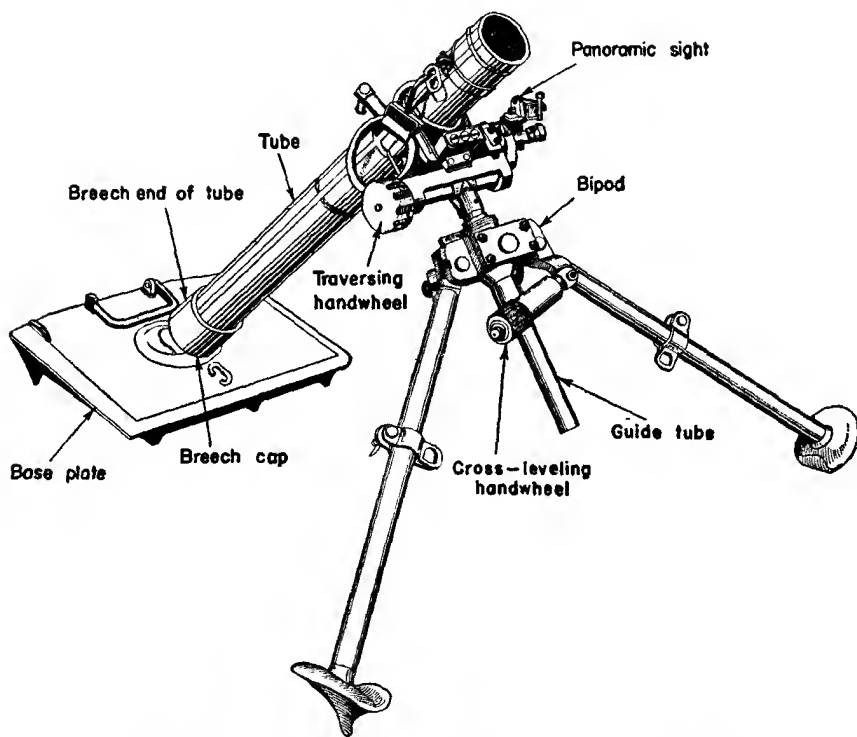

Figure 55.—Right view of 8-cm mortar, model 34.
d. How to Operate (Figs. 55 and 56)